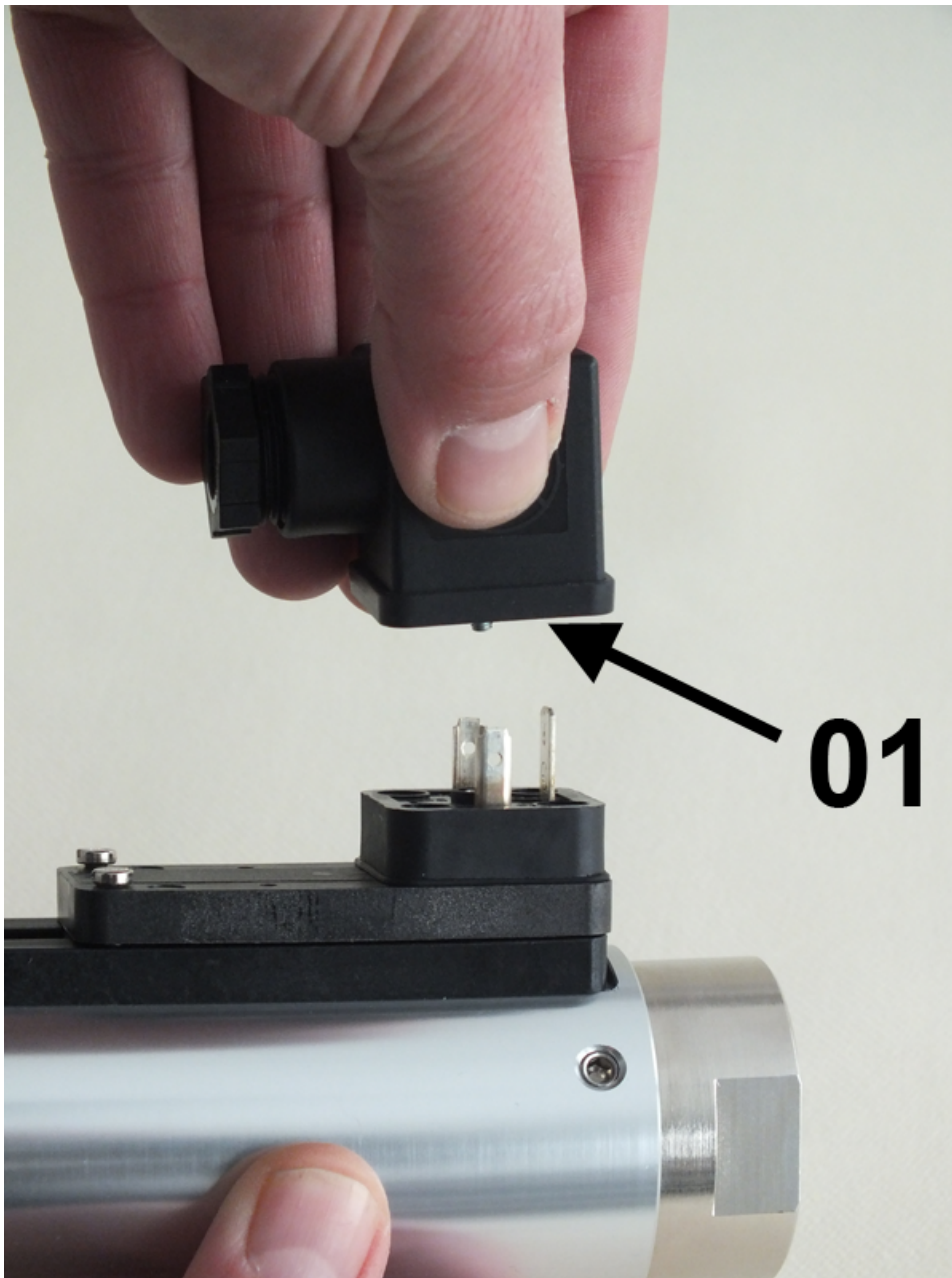

Fig. 60: Remove the female socket
- 2.**  Remove the female socket and gasket (*Fig. 60/1*) by pulling upwards.